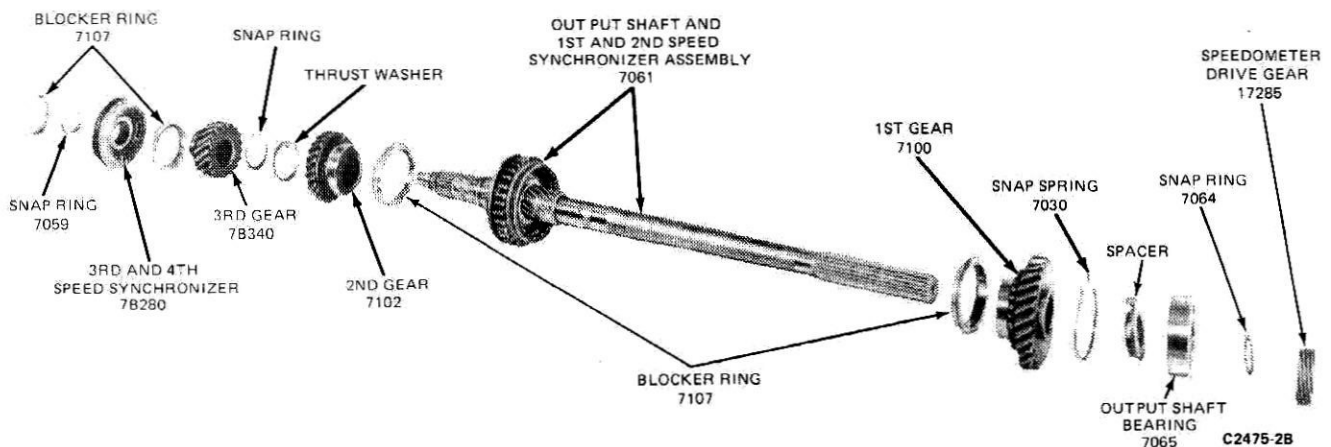

FIG. 22 Output Shaft Disassembled
22. Remove the snap ring that retains the output shaft bearing in the extension housing (Fig. 22).
3. If the first- and second-speed synchronizer (Fig. 22) has been disassembled, slide the sleeve over the hub making sure that the shift fork groove is toward the front of the shaft. **The sleeve and hub are select fit and must be reassembled with the etch marks in the same relative location (Fig. 22).** Locate an insert in each of the three slots cut in the hub. If a new synchronizer and shaft is being used, clean all traces of preservative from the hub, sleeve, inserts and springs. Oil all parts at time of assembly. Install an insert spring inside the synchronizer sleeve beneath the inserts. The tab on the end of the spring must locate in the U-section of an insert. Fit the other spring to the opposite face
4. Assemble a blocker ring on the first gear side of the first- and second-speed synchronizer (Fig. 22). Apply C3RZ-19C547-B lubricant or equivalent to the cone surface of the first gear, and all output shaft gear journals before installing the gear on the shaft. Slide the first gear onto the output shaft so that the cone surface engages the blocker ring.